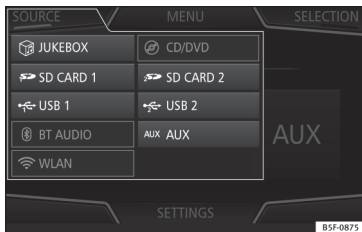

Fig. 169 MEDIA mode: change media source.
- **OR:** From the *Media* main menu, press the **SOURCE** function button >>> Fig. 169 and select the desired media source.